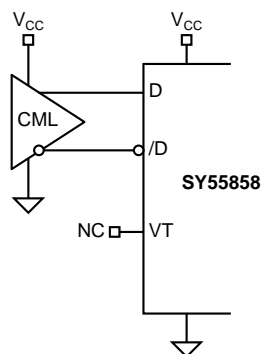

**Figure 3. 50 $\Omega$  Output Termination**
**Note 3.**  $V_{OUT(SWING)}$  is defined as the swing on one output of a differential pair, that is  $|V_{OH} - V_{OL}|$  on one pin. The swing for common mode immunity purposes is  $2 \times V_{OUT(SWING)}$ . Actual voltage levels and differential swing will depend on customer termination scheme. Typically, a 400mV swing is available in the 50 $\Omega$  environment. Refer to the "CML Output Termination Application" section, Figures 3 and 4, for more details.
**Note 2.** Tested using environment of Figure 3, 50 $\Omega$  equivalent load. AC parameters are guaranteed by design and characterization.
All CML inputs accept a CML output from any other 50 $\Omega$  differential drivers as shown in **Figure 3**. member of this family. All CML outputs are source terminated